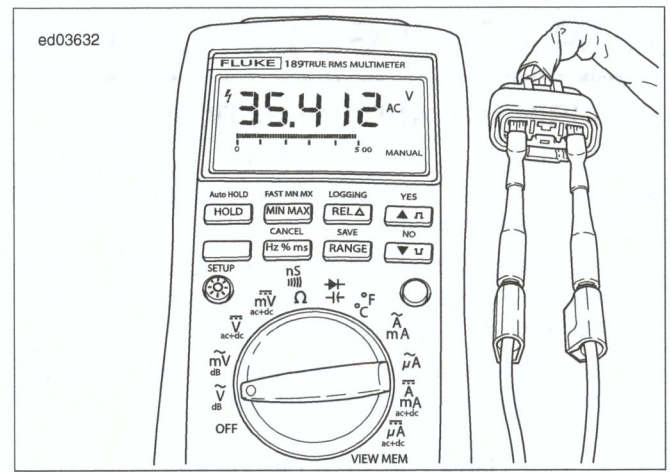

Figure 2-13. Check Stator AC Voltage Output (Typical)
1. See Figure 2-13. Test AC output.